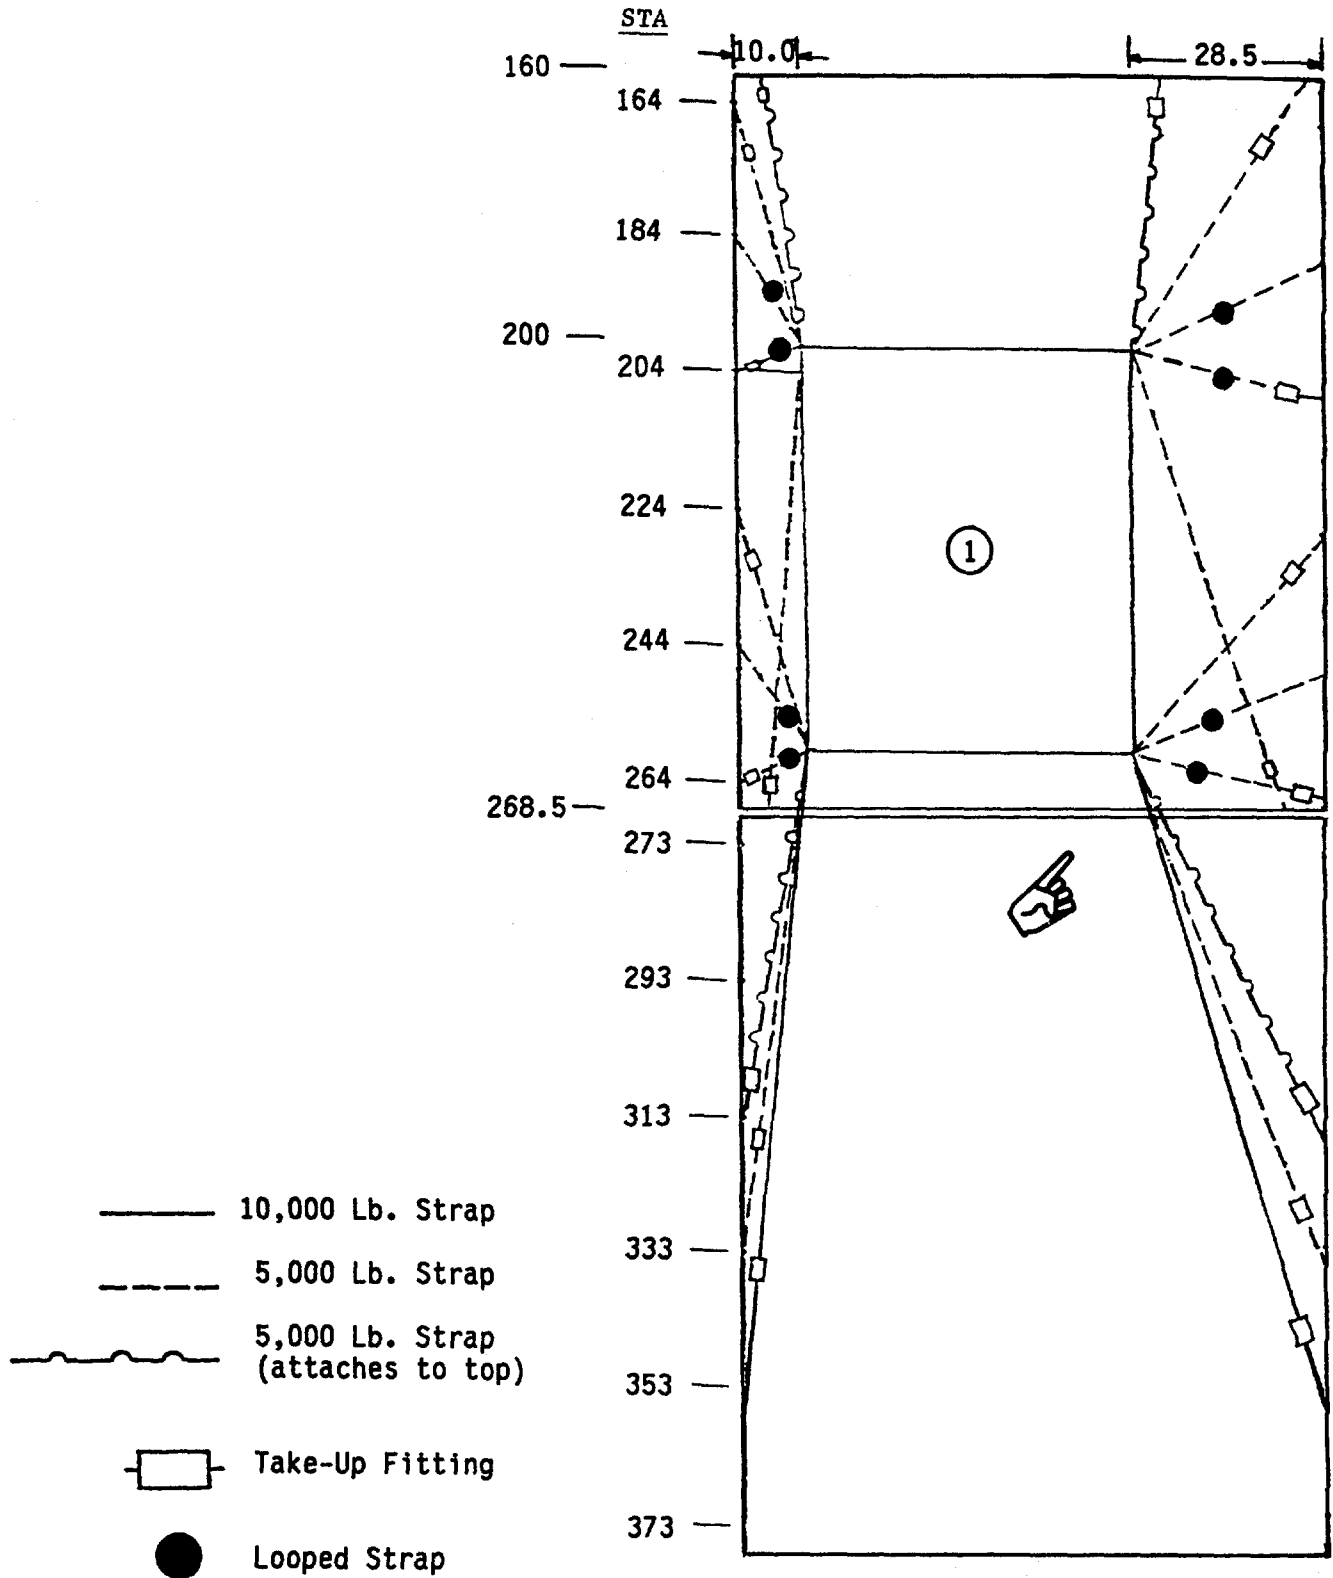

Figure 2-17. One Tank with One Pallet
- One tank w/one pallet, Fig 2-17